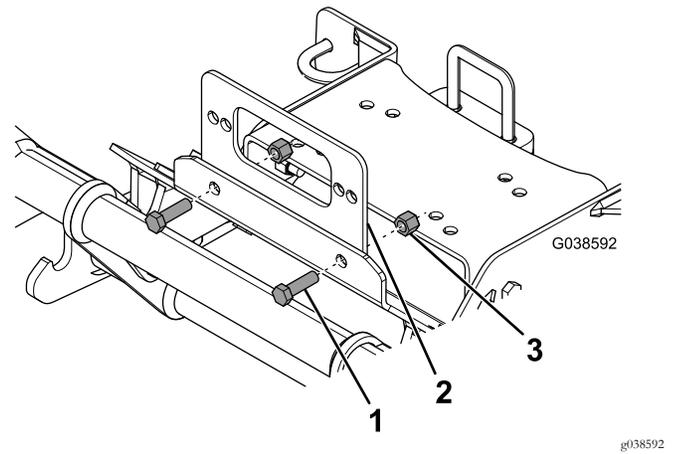

Figure 5
- If necessary, secure the optional front plate to the plow skid plate using 2 bolts (3/8 inch) and locknuts (3/8 inch) as shown in Figure 5.